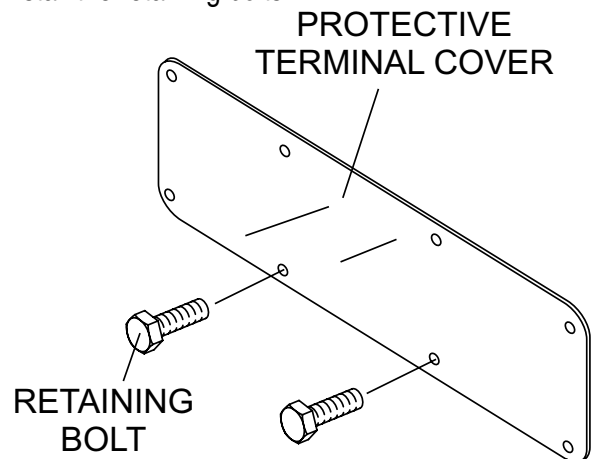

Figure 10. Protective Terminal Cover (UVWO Terminal Lugs)
The **output terminal lugs** are protected by a protective cover (Figure 10). Un-screw the securing bolts (8) and remove the cover to gain access to the output terminal lugs.